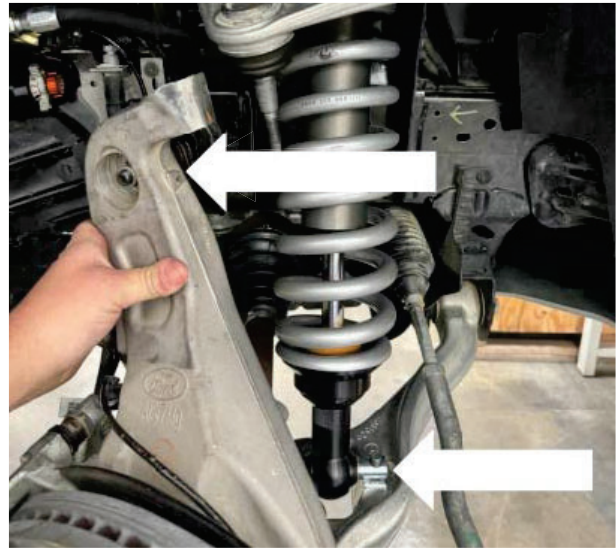

Fig. 4: Disconnect the sway bar link and lower shock bolts. .
4. Disconnect the sway bar link from the upright (Fig. 4).
5. Unbolt the two lower shock bolts connecting the shock to the lower control arm (Fig. 4, lower arrows). Support the upright with straps or wire to prevent damage to the brake lines.
2. Connect the lower two shock bolts through lower control arm (Fig 4 lower arrows). Torque to 50 ft-lbs. Allow the reservoir and hose to hang freely (without abrupt pulling) until the reservoir installation phase.
6. Reconnect the sway bar link and torque to OE specification (Fig. 4, upper arrow).